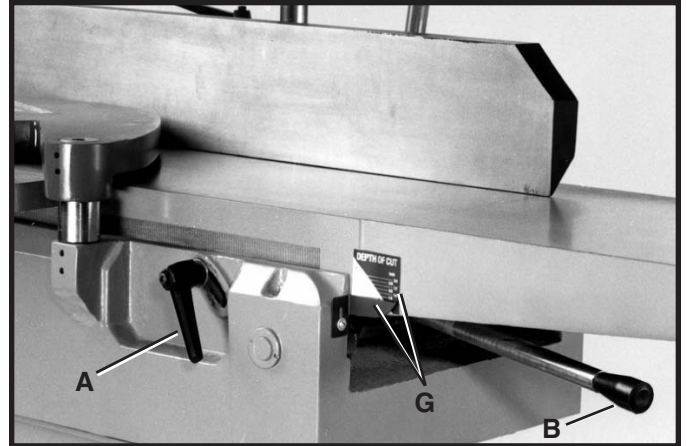

Fig. 28
To raise or lower the infeed table, loosen table lock handle (A) Fig. 28, and move the table raising and lowering hand lever (B) up or down until the table is at the desired position and tighten table lock handle (A). **NOTE:** The table lock handle (A) can be repositioned by pulling out the handle and repositioning it on the serrated nut located under the handle.
The depth of cut of the infeed table (position of table in relationship with the cutting circle) can be read with the English/Metric scale and pointer (G) Fig. 28.